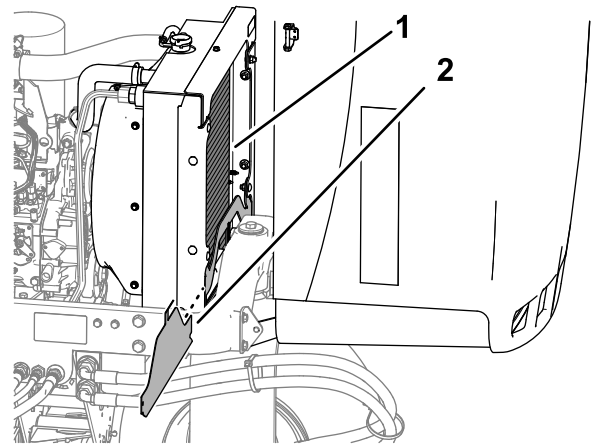

Figure 81
4. Remove the lower radiator shield (Figure 81).
5. Clean both sides of the radiator area thoroughly with water or compressed air (Figure 81).